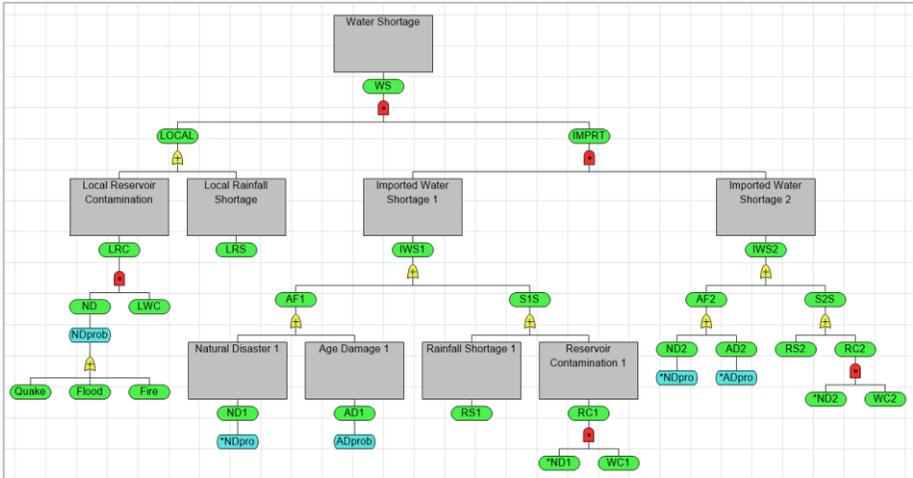

Figure 3-24. Fault Tree with Source 2 Subtree Names Updated
- ⇒ Delete the ADprob_c value node beneath the AD2 node and create a reference from the ADprob value in the Source 1 subtree to the AD2 binary event. See Figure 3-24.